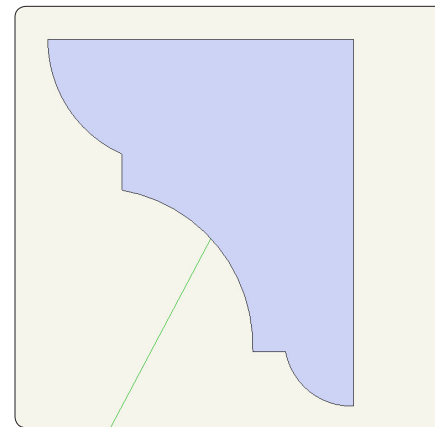
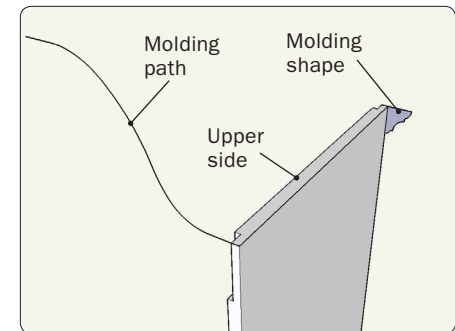

Figure 12. The profile for the gooseneck molding.
Figure 13. Attach the molding shape to the carcass side, then draw the ogee curve path for the Follow Me tool.
Step 1 Use the Line and Arc Tools to develop the shape of the molding. The profile I used is shown in Figure 12. Connect the molding shape to the back edge of the highboy's carcass side, as shown in Figure 13.
Step 2 Create the path for the Follow Me Tool, connecting the curved portion to the front of the carcass side, as shown in Figure 13. I was able to trace the path from a scanned image using the Arc Tool. This includes the curved section and the outside top edge of the carcass